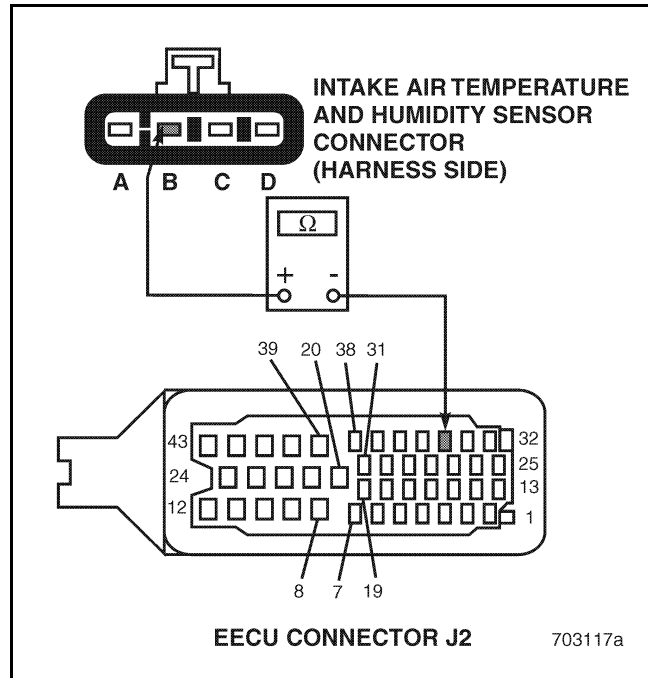

Figure 322
4. Check for continuity between IATH Sensor harness connector pin B (signal line) and EECU harness connector J2 pin 34 (see Figure 322).